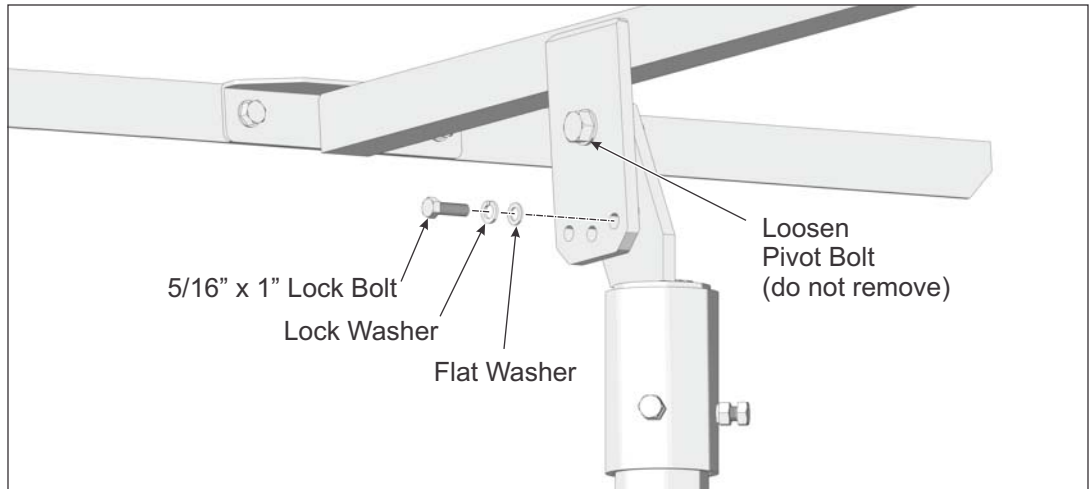

Figure 6-1: Preparing to Adjust the Tilt Angle
- A. While one person holds the south edge of rack, the other loosens the Pivot Bolt and removes the 5/16" Lock Bolt from the Strongback Pivot Plate. (see Figure 6-1)